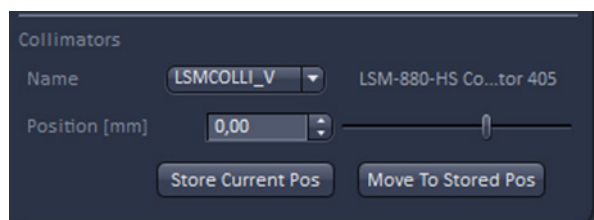

Fig. 558 Adjust Pinhole and Collimator tool – Collimators panel
- You have access to the collimators for the inVIS lasers = UV (355 nm), 405nm, 440nm and NLO (multiphoton lasers). Each coupling port is equipped with a motorized collimating optics. Select the collimator for the port with the drop down list next to **Name** (Fig. 558). The collimators name is then displayed next to the drop down list and in the tool tip of the text.